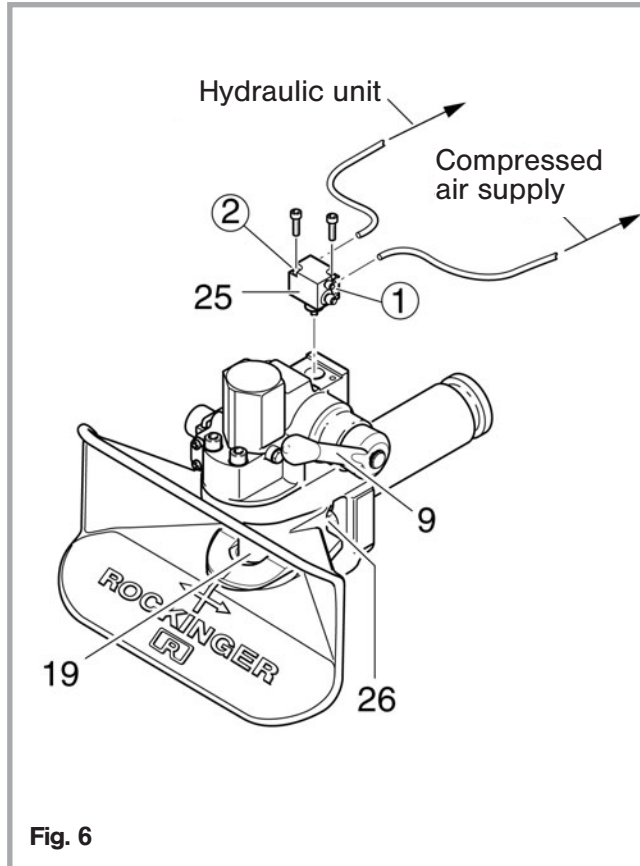

Fig. 6
8. Replacement of the pneumatic valve (see fig. 6)
- Loose tubes on the pneumatic valve (25)